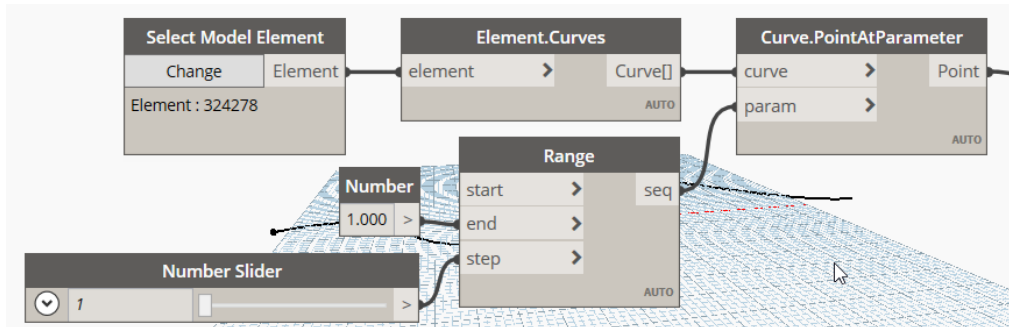

FIGURE 34
13. Rewire the graph to incorporate the **Range** node as shown in Figure 34. Be sure to change the value of the **Number** node to: **1**.